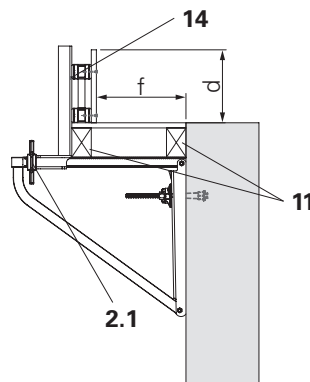

Fig. A2.04
5. Mount the formwork and fix it in place with screws 5 x 20 (14). (Fig. A2.04)